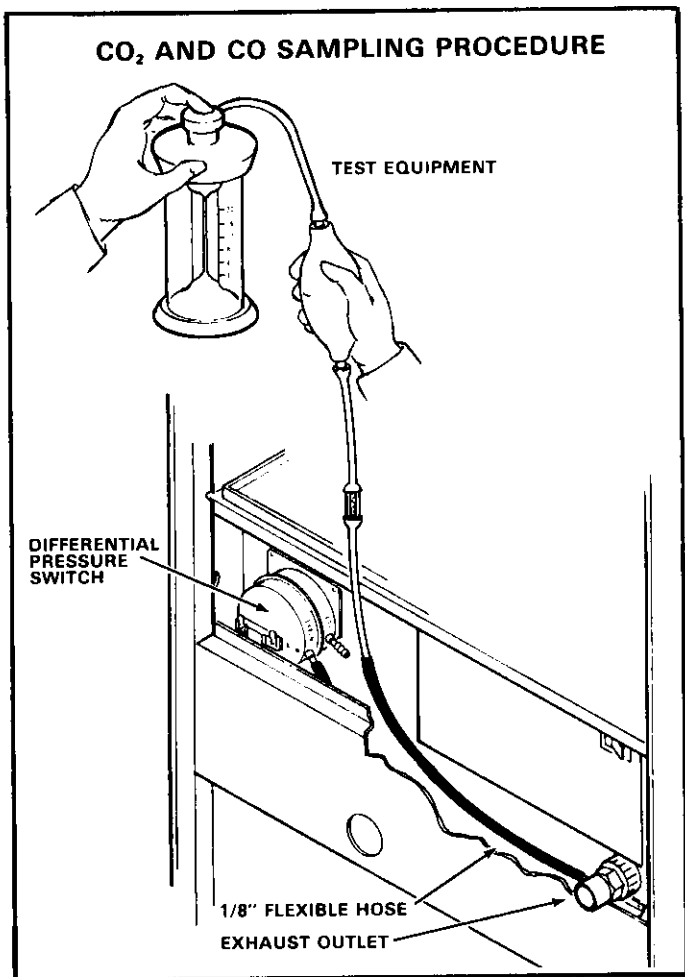

FIGURE 31
- 1 - Disconnect the differential pressure switch hose from the 1/8" differential pressure switch outlet adaptor and connect the sampling device to the hose (Figure 31).